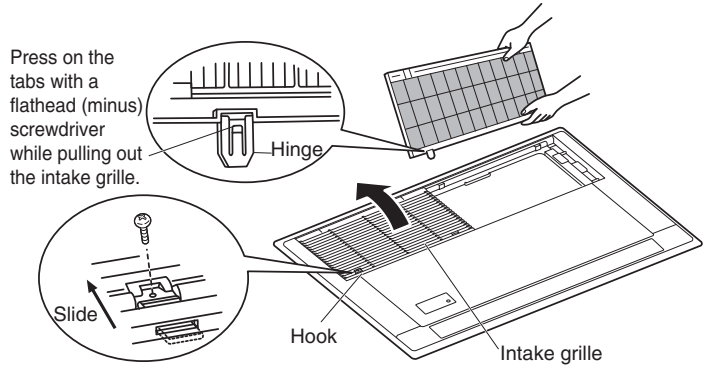

Fig. 7-1
- (1) Remove the 2 screws that fasten each of the 2 grilles in place. (Fig. 7-1)
- (2) Slide the intake grille hooks (2 locations) in the direction of the arrow to open the intake grille. (Fig. 7-1)
- (3) When the intake grille is open, use a flathead (minus) screwdriver to press on the rear hinge tabs (2 locations), then remove the intake grille. (Fig. 7-1)